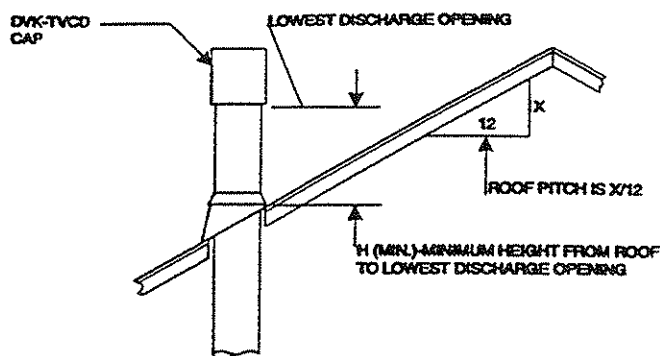

FIGURE 30
**WARNING:** Major U.S. building codes specify minimum chimney and/or vent height above the roof top. These minimum heights are necessary in the interest of safety. Figure 30 and Table 14 show minimum heights, provided the termination cap is at least 8-feet from a vertical wall.